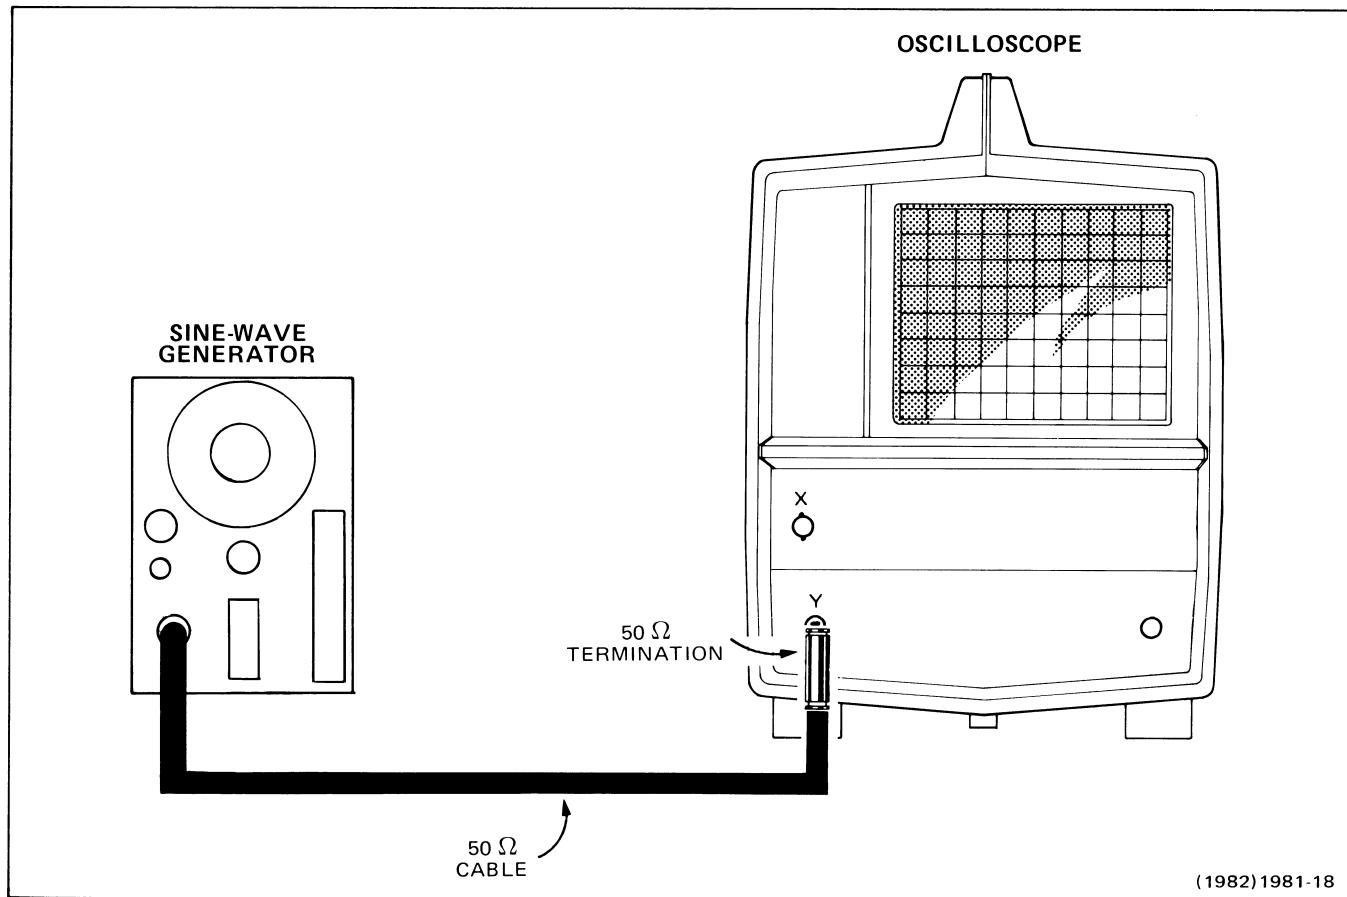

Fig. 4-3. Storage adjustment setup.
k. Connect a bnc 50 Ω cable to the sine-wave generator, terminate cable with a 50 Ω termination, and connect the termination to the CH 1 input. (See Fig. 4-3.)
k. Connect a bnc 50 Ω cable to the sine-wave generator and terminate the cable with a bnc 50 Ω termination attached to the CH 1 input (see Fig. 4-3).